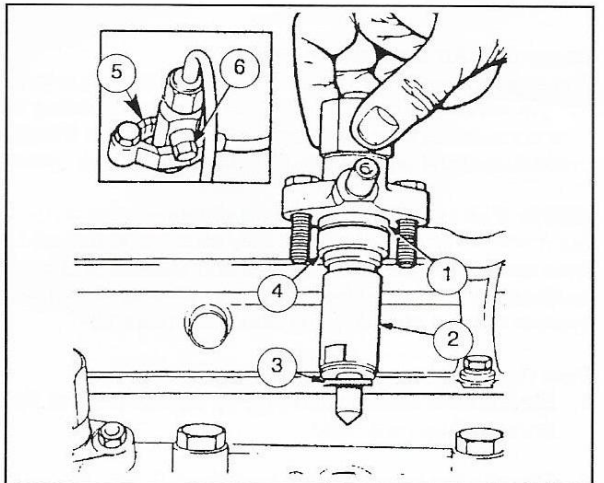

Fig. 81
4. Remove the injector flange setscrews or nuts, remove the clamp (5, Fig. 81) if fitted, and withdraw the injector (2).
5. Remove the seat washer (3), dust seal (4) and the spacer (1) and fit onto a replacement injector.
6. Install the replacement injector. Where the injector has a high pressure connection on top, ensure that the fuel leak-off connection (6) is not towards the engine. Tighten the setscrews or nuts to 16 Nm (12 lbf ft) ensuring that the injector is straight.